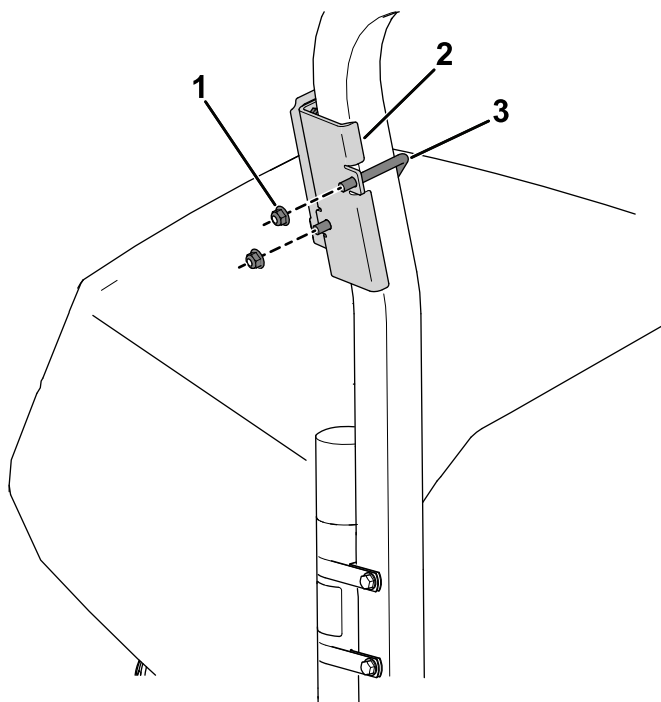

Figure 7
2. Use a U-bolt and 2 flange nuts (3/8 inch) to secure the device bracket to the area above the manual tube on the roll bar (Figure 7).